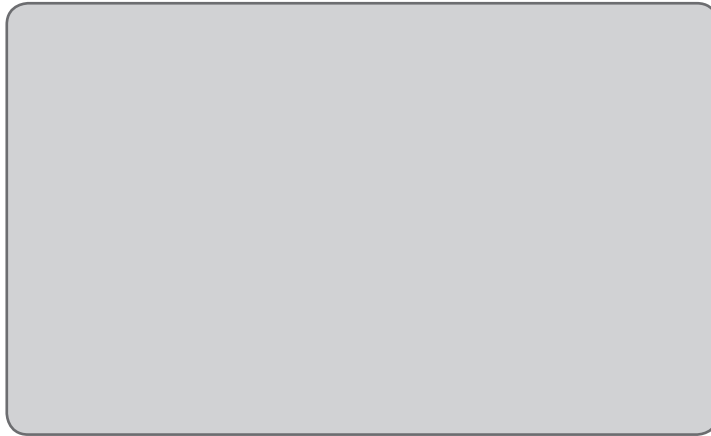

Figure 34: The distal straps fastened.
5. Fasten the Thigh FS Cuff distal straps and tighten them to fit. See Figure 34.